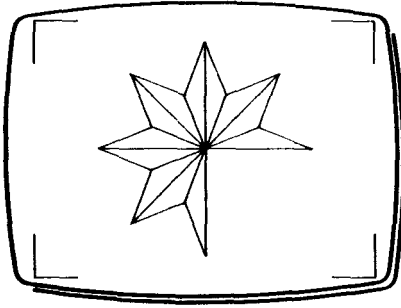

Fig 3
- 9 Move XY to centre the cursor frame, then press and release T to fill the bottom left quadrant (Fig 3).